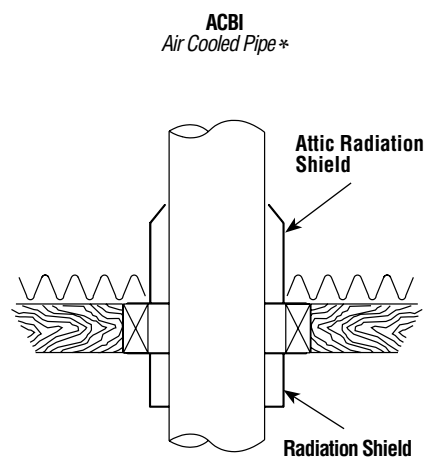

Figure 22b
5. From below, install a firestop (see **Figure 22b**).